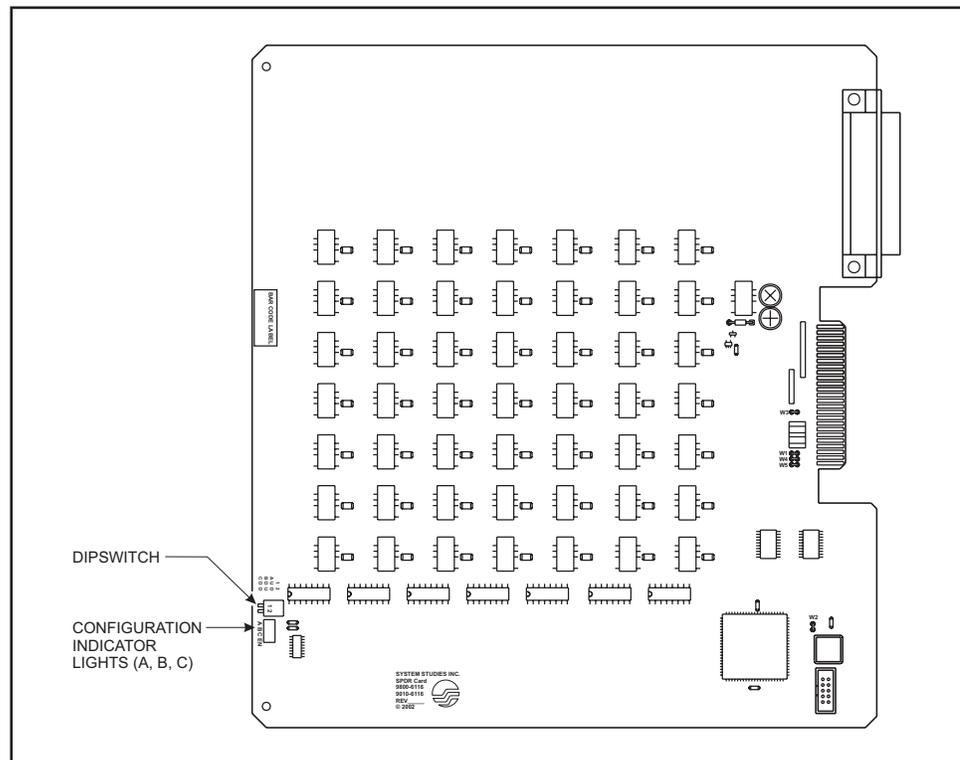

Figure 2 - Configuration Dipswitch on SPDR Card
- 3) Identify the configuration dipswitch module located in the lower left corner of the SPDR card (see Figure 2).
- 5) Check the configuration indicator lights on each SPDR (see Figure 2) to verify that the card has been set for the correct configuration.